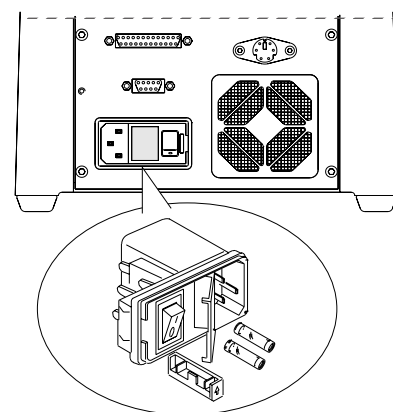

Fig. 38
situated in the power socket on the back of the machine, next to the switch (I) (fig. 38). They protect the machine from the power variations and short circuits.